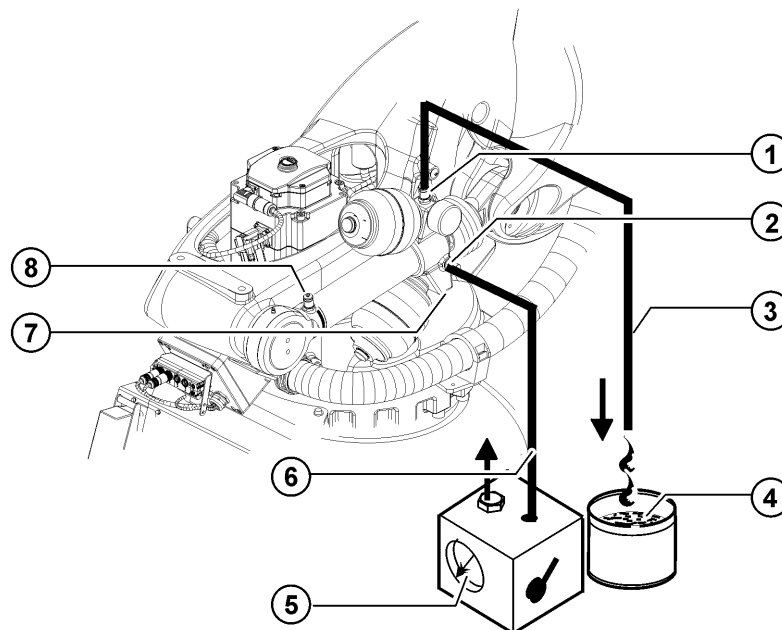

Fig. 10-6: Topping up the hydraulic oil
19. Unscrew the screw cap on the filler neck (>>> Fig. 10-6) and connect the hydraulic tube.